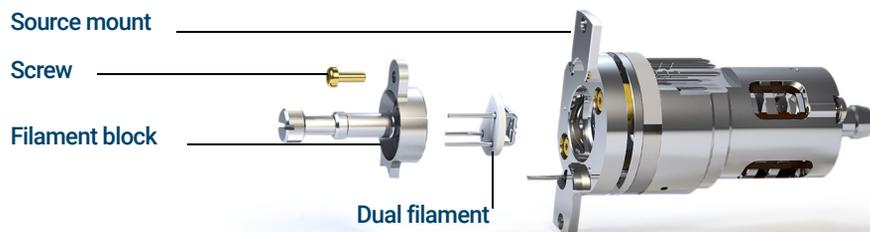

Figure 56 Replacing the dual filament
- 4 Remove the screw securing the filament block to the source mount. (See Figure 56.)
- 2 Insert the 3 pins on the dual filament through the rear of the filament block. (See Figure 56 on page 162.)